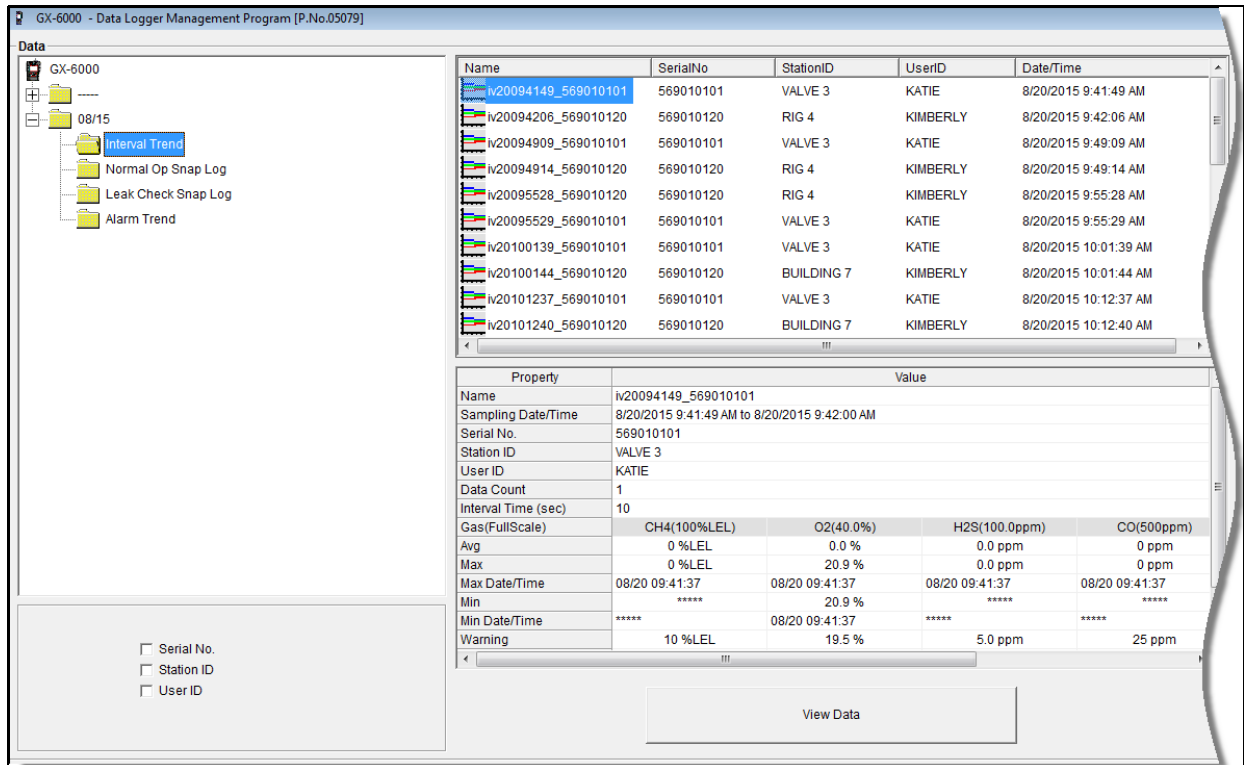

Figure 14: Data Window, Basic Data Organization
2. Click the selection box or boxes in the lower left frame to organize the data as desired. The data may be organized by one or more of the following parameters: serial number, station ID, or user ID. If none of the boxes are selected, then the data is organized as shown in Figure 14.